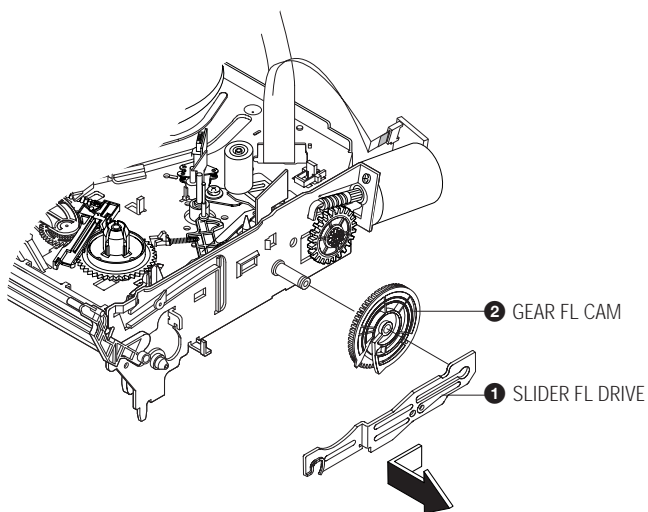

Fig. 2-13 Slider FL Drive Removal
- 1) Pull the Slider FL Drive ❶ to the front direction.
- 2) Remove the Slider FL Drive ❶ in the direction of arrow. (Refer to Fig. 2-13)
- 3) Remove the Gear FL cam ❷.